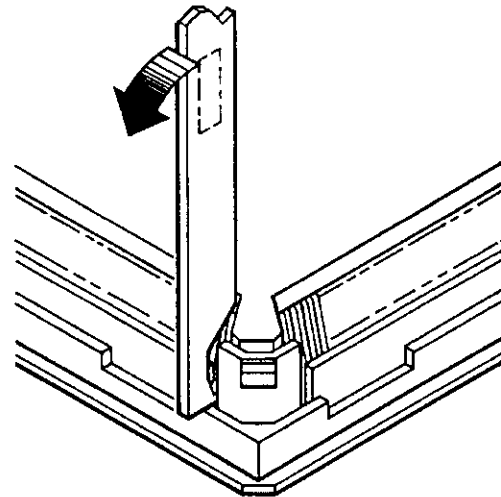

Figure 10
6. Using the other end of the tool, insert the hook into the space beside the housing latch and underneath the PQFP device (as shown in Figure 10). In a prying motion, lift and dislodge the PQFP from the housing. Repeat these steps in as many corners as necessary to fully disengage the device. Use a suction cup or other handling device to lift the PQFP from the housing.